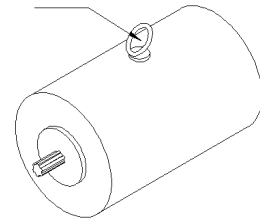

Figure 2-79
(5) Lifting description of the travel motor as shown in Figure 2-79